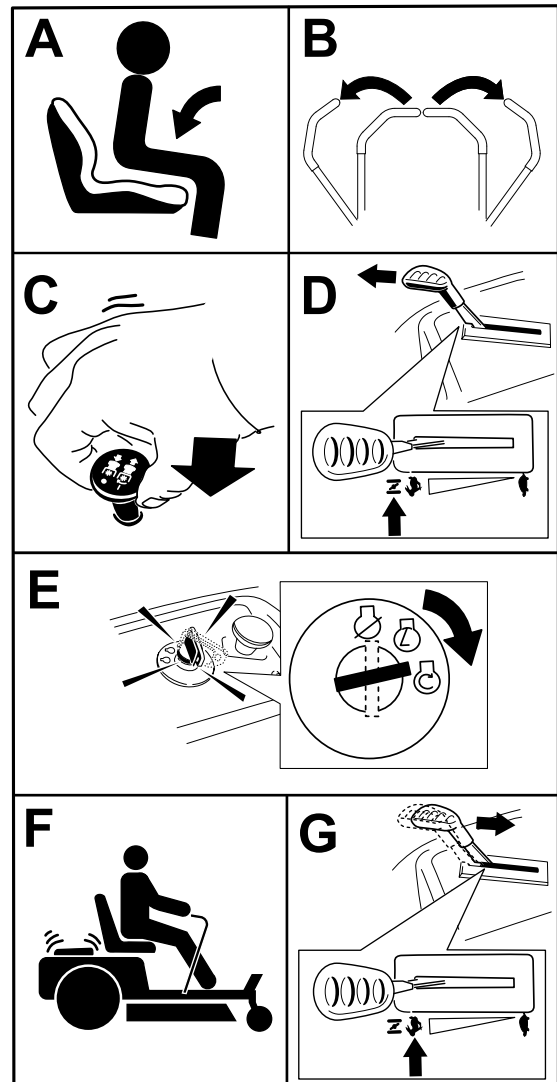

Figure 24
Note: It may be necessary to hold the lever against the stop, in the choke position, while trying to start the engine (Figure 24).
1. Disengage the blades by moving the blade-control switch to the OFF position (Figure 24).